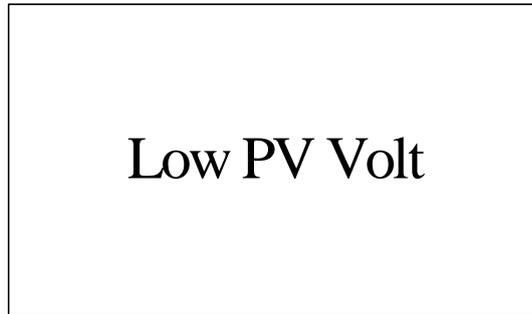

Figure 4-3 Low Volt
(4) If “Low PV Volt” is indicated on the LCD, as shown in Figure 4-3, check whether the PV connection is correct and whether the DC voltage is over 300V.